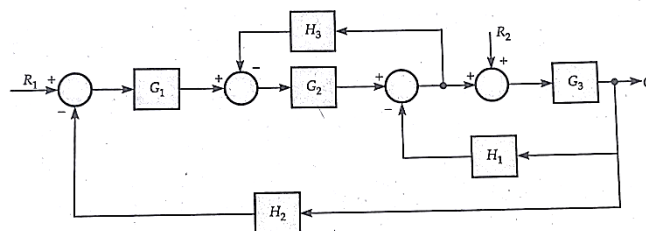

Figure 3
- (c) Reduce block diagram as shown in Figure 3 and obtain transfer function C/R_2 . **07**